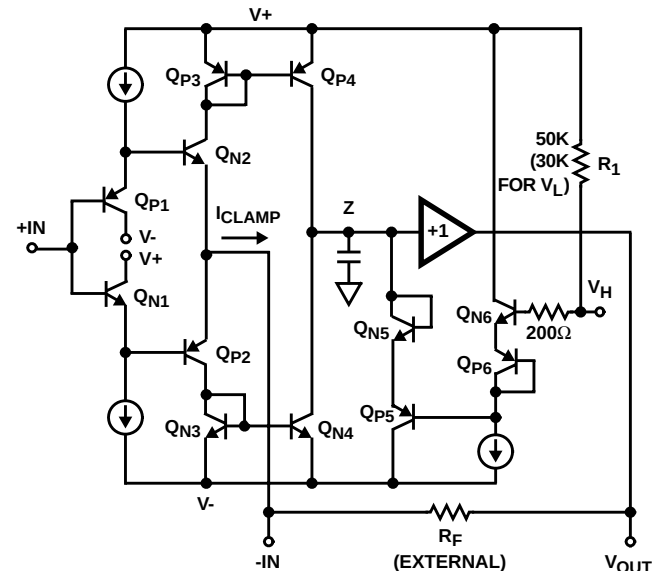

FIGURE 1. HFA1130 SIMPLIFIED V_H CLAMP CIRCUITRY
Figure 1 shows a simplified schematic of the HFA1130 input stage, and the high clamp (V_H) circuitry. As with all current feedback amplifiers, there is a unity gain buffer ($Q_{X1} - Q_{X2}$) between the positive and negative inputs. This buffer forces $-IN$ to track $+IN$, and sets up a slewing current of $(V_{-IN} - V_{OUT})/R_F$. This current is mirrored onto the high impedance node (Z) by $Q_{X3} - Q_{X4}$, where it is converted to a voltage and fed to the output via another unity gain buffer. If no clamping is utilized, the high impedance node may swing within the limits defined by Q_{P4} and Q_{N4} . Note that when the output reaches its quiescent value, the current flowing through $-IN$ is reduced to only that small current ($-I_{\text{BIAS}}$) required to keep the output at the final voltage.
The clamped output voltage will not be exactly equal to the voltage applied to V_H or V_L . Offset errors, mostly due to V_{BE} mismatches, necessitate a clamp accuracy parameter which is found in the device specifications. Clamp accuracy is a function of the clamping conditions. Referring again to Figure 1, it can be seen that one component of clamp accuracy is the V_{BE} mismatch between the Q_{X6} transistors, and the Q_{X5} transistors. If the transistors always ran at the same current level there would be no V_{BE} mismatch, and no contribution to the inaccuracy. The Q_{X6} transistors are biased at a constant current, but as described earlier, the current through Q_{X5} is equivalent to I_{CLAMP} . V_{BE} increases as I_{CLAMP} increases, causing the clamped output voltage to increase as well.